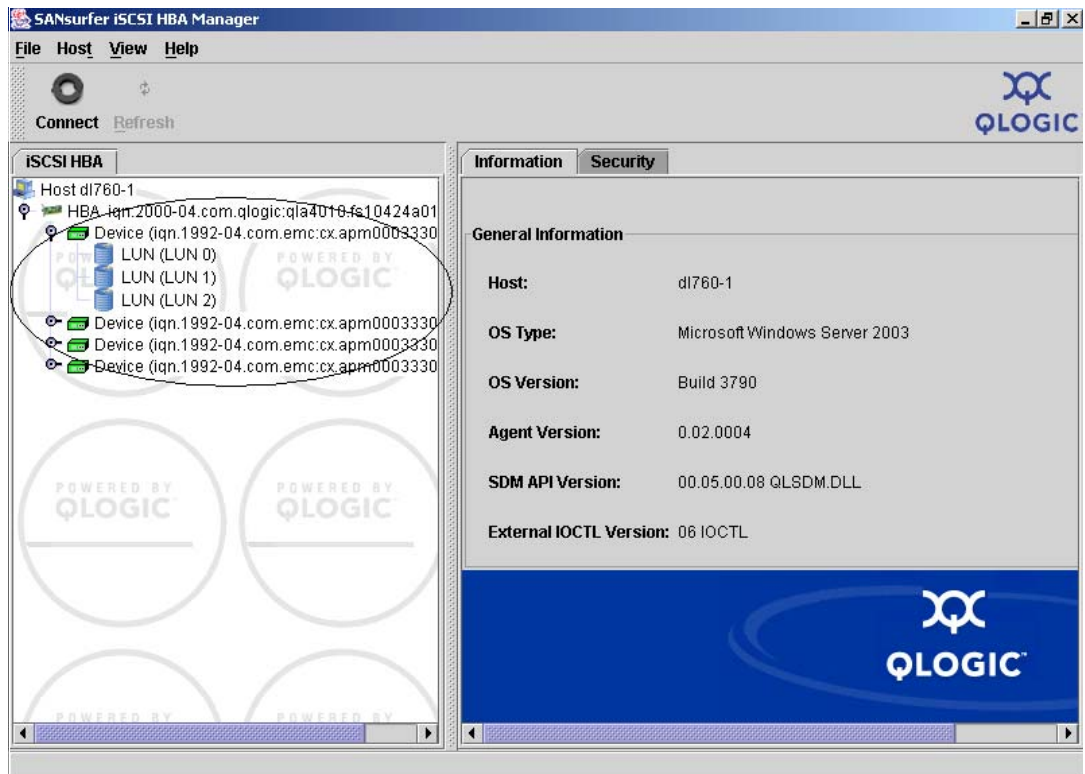

Figure 62 SANsurfer iSCSI HBA Manager, Information tab
- ◆ After the settings are saved, SANsurfer resets the HBA, and if target information was discovered properly, you will see active connections listed on the **SANsurfer iSCSI HBA Manager, Target Information** tab. You can also view active targets under the HBA in the left pane as shown in Figure 62.